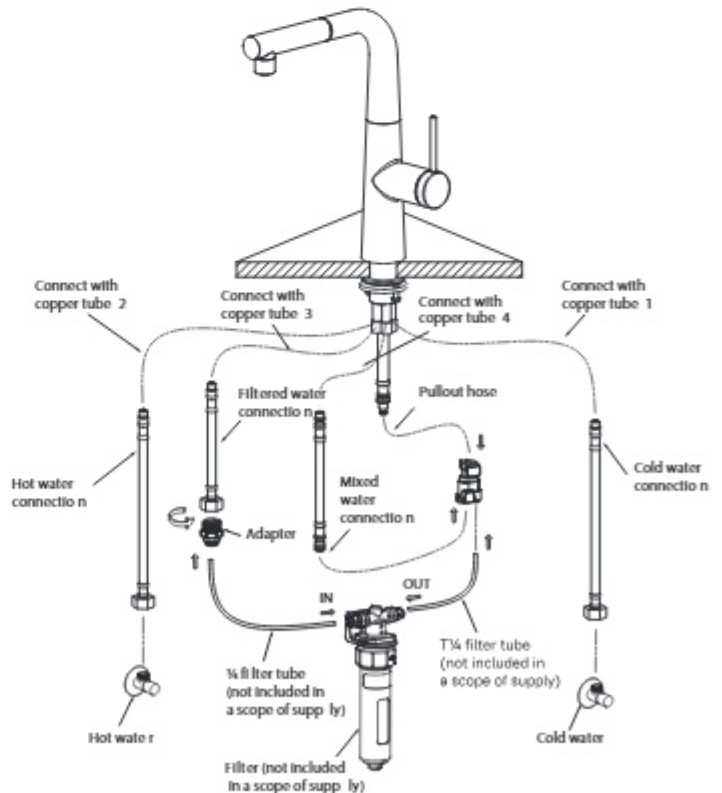

Fig. 1
2. Connect the cold water supply line №1 to the copper tube №1 (Fig. 1).
3. Connect the hot water line №2 to the copper tube №2 (Fig. 1).